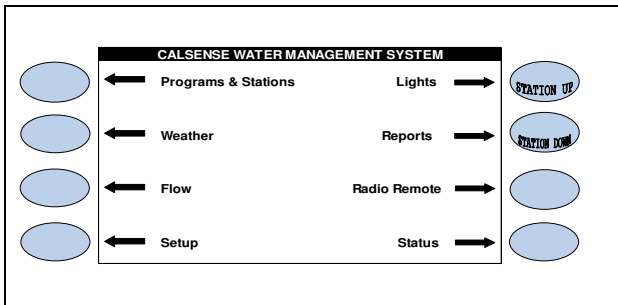

Figure 1
2.  Press the **WEATHER** menu key (Figure 1).
12.  Press the **MAIN MENU** key to return to the MAIN MENU screen (Figure 1).